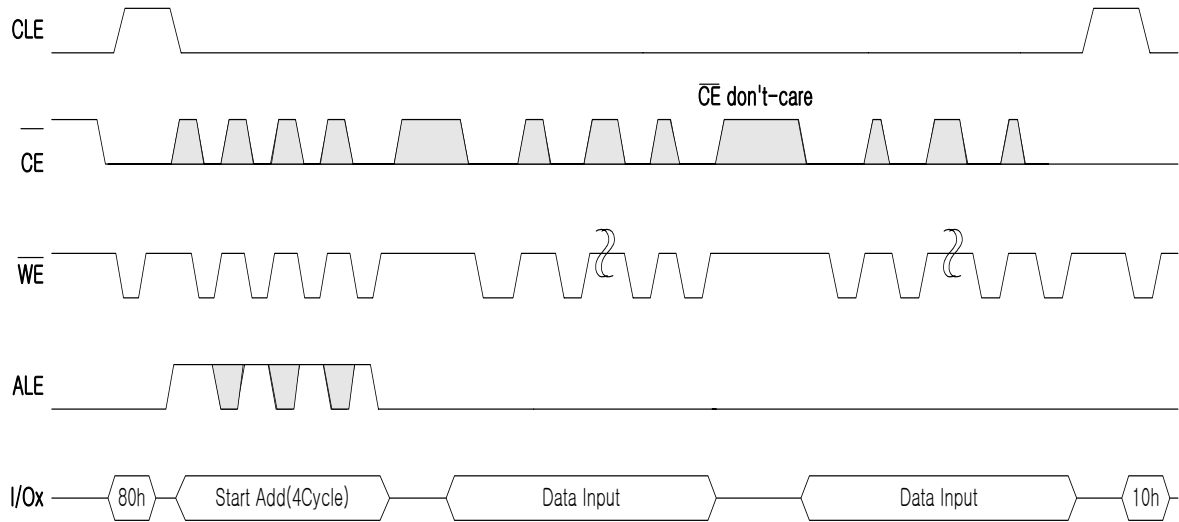

Figure 32. Program Operation with \overline{CE} don't-care.
- Note: (1). The time to Ready depends on the value of the pull-up resistor tied to the Ready/Busy pin. See Figures 32, 33 and 34.
Figures 32, 33 and 34 show the electrical characteristics for the Ready/Busy signal. The value required for the resistor R_p can be calculated using the following equation: